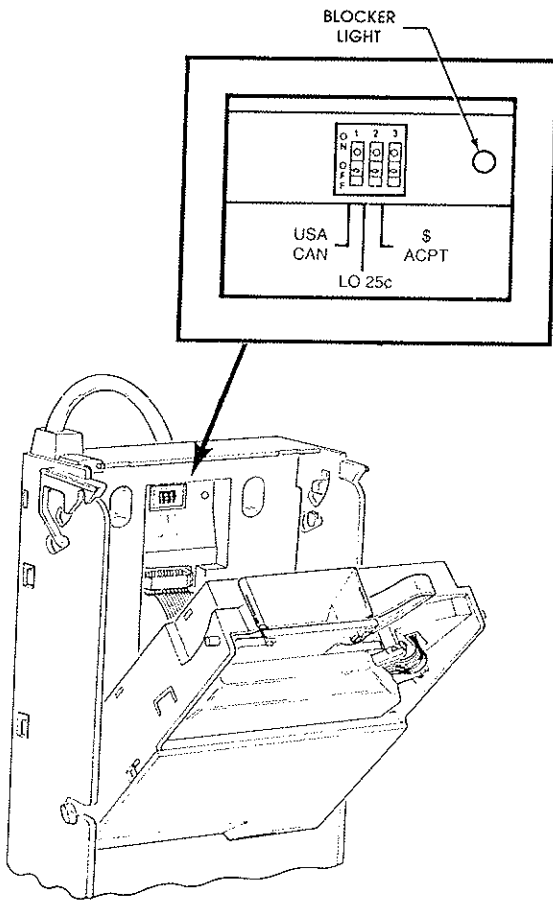

Figure 18
2. Open the coin acceptor part of the coin changer. (See **Figure 18.**)